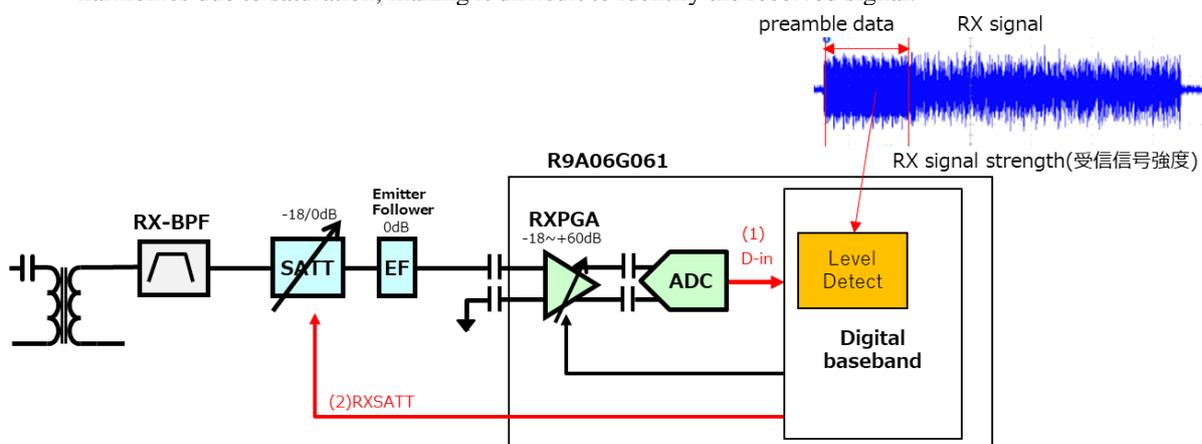
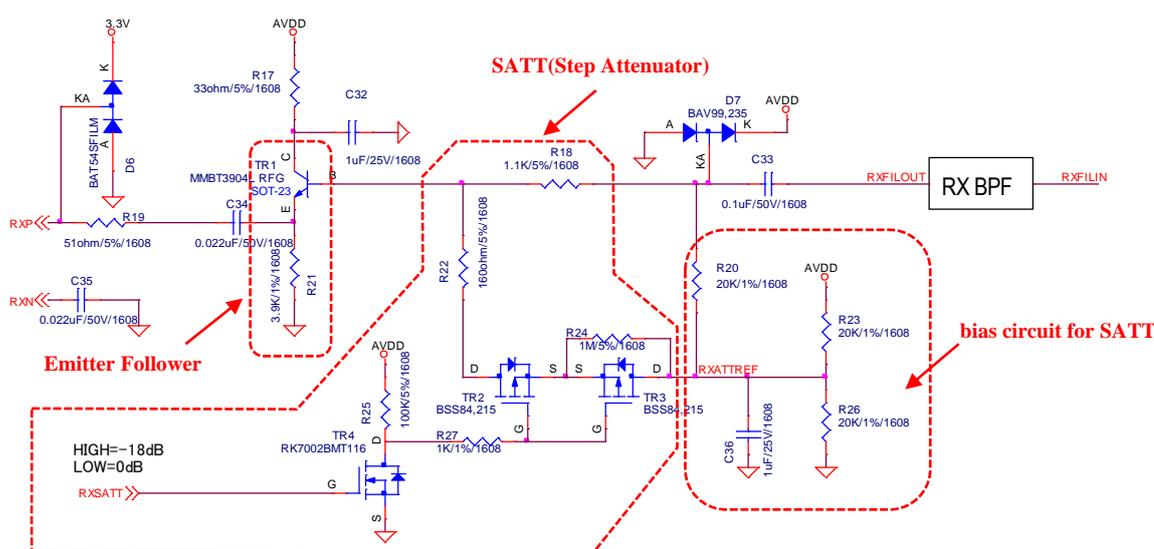

Figure 3 -3-13 Step Attenuator (SATT) control method
Figure 3-14 Example of Step Attenuator (SATT) circuit
The differential output of the ISL15102 is connected to the RX section only on the positive phase output side. Therefore, place C30 = 1uF and R16 = 120Ω shown in Figure 3 6 (a) for the purpose of balancing the load on the negative phase output side.
- Figure 3 -3-13 shows how to control SATT.
- (1) Using the received preamble data, the level detection function of the digital baseband section determines whether the signal strength of the ADC output exceeds the signal saturated in the receiving circuit.
- (2) When the signal level saturated in the receiving circuit is exceeded, the received signal is attenuated by switching the RXSATT signal from 0 to 1 and switching the SATT gain from 0dB to -18dB.
- Figure 3-14 shows an example of the SATT circuit used for the PLC board.